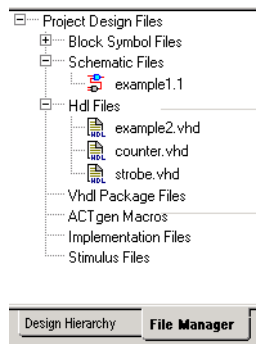

Figure 4-3. Saved HDL Files in the File Manager
5. **After creating your HDL file, save your file to the project by clicking *Save* from the File menu.** Your HDL file is saved to your project, appearing in the File Manager, as shown in Figure 4-3.